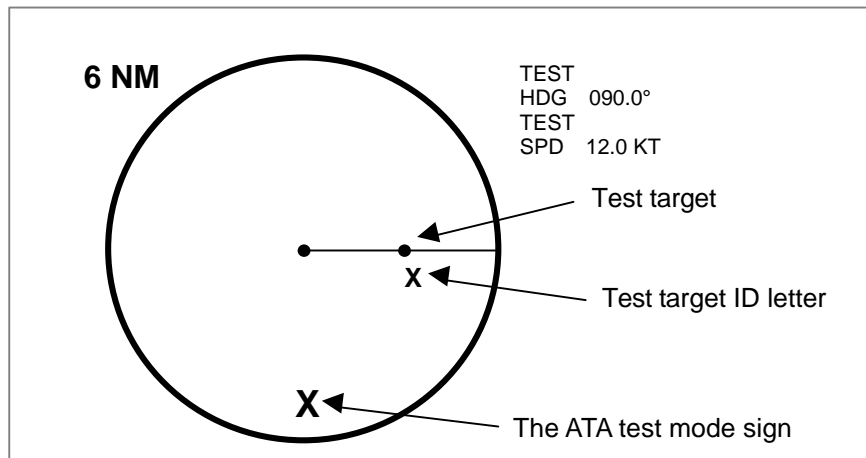

Figure 6.2 The ATA test mode display
- (3) After 30 seconds or more since the target has been acquired, plot the target again as a second plot by placing the cross cursor on it and pressing the ACQ key. A vector will be developed and the relevant data will be shown on the right side of the screen. (Refer to Figure 6.2)
- (4) Press the DELETE key to cancel the target tracking. The symbol of the target and data will be cleared.